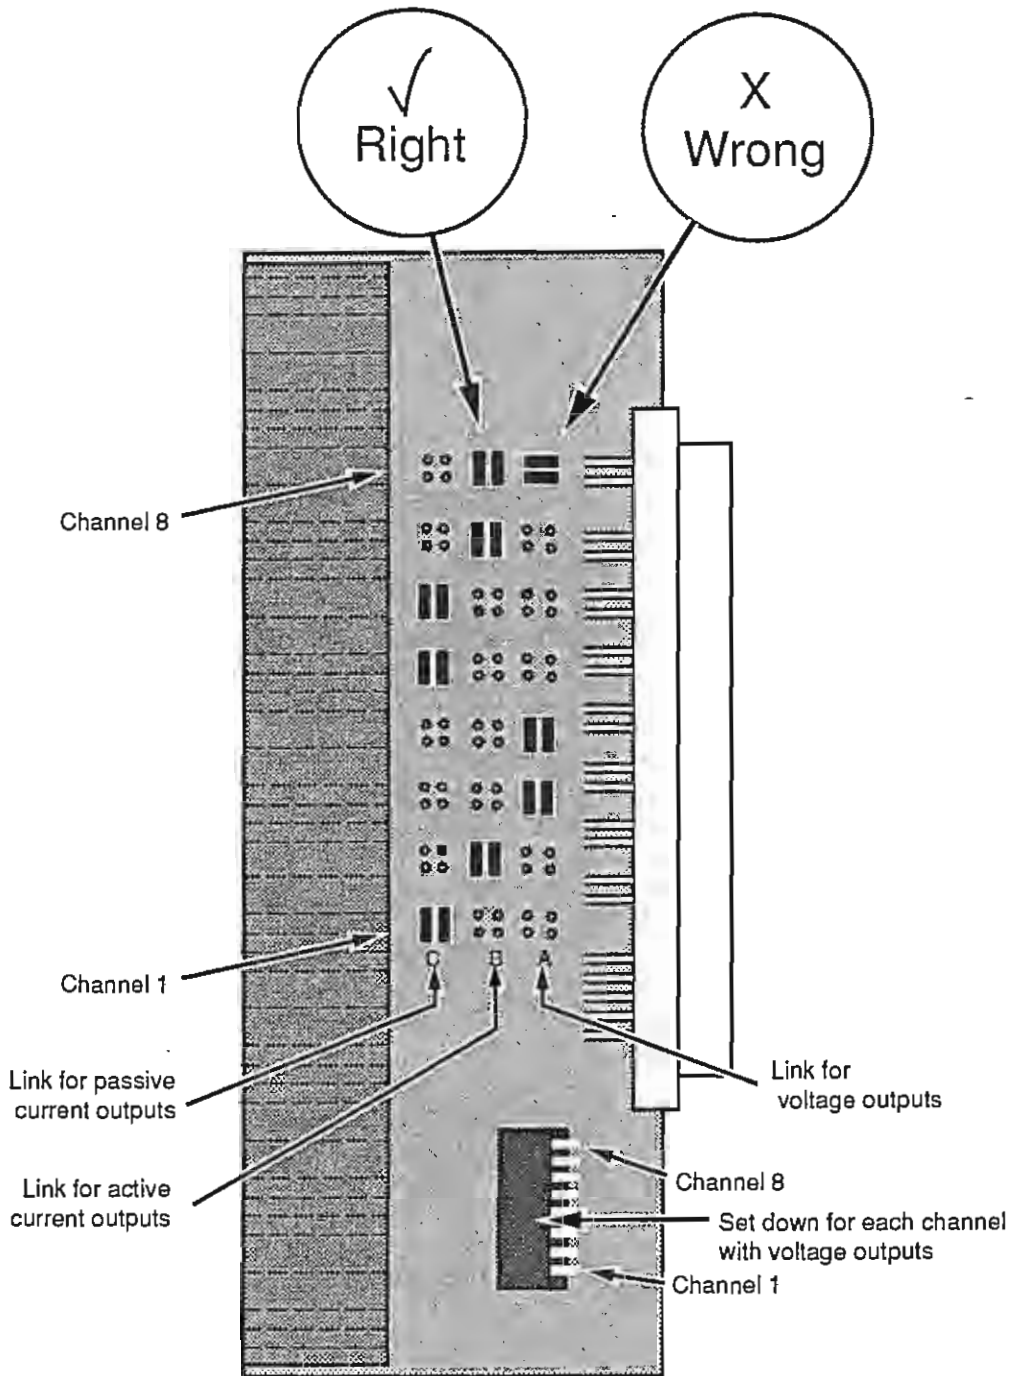

Figure 2.2.2e 8 channel analogue output SIM internal links
- e) Figure 2.2.2e shows the links to be fitted within the eight-channel analogue output board SIM to set the outputs to voltage or current outputs.